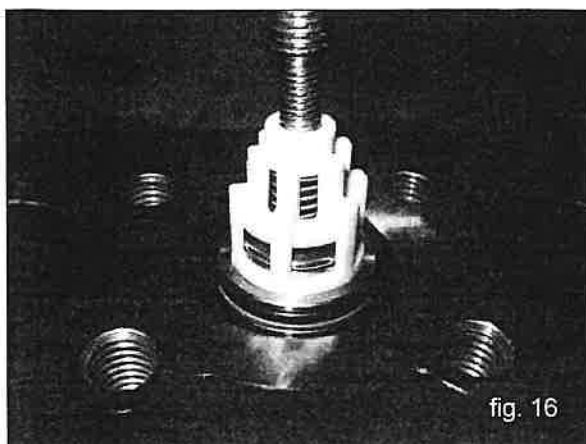

fig. 16
- E) the suction valve units (fig. 16).